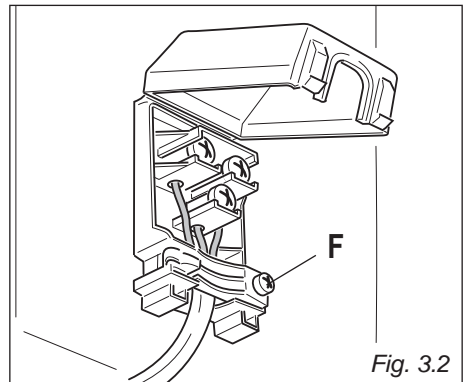
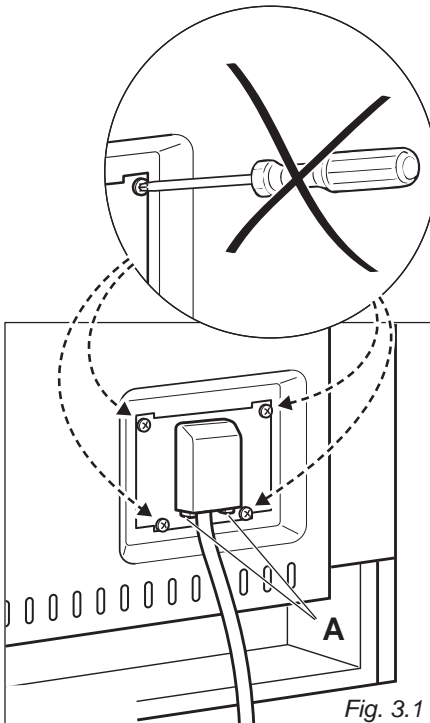

Fig. 3.2
Fig. 3.1
- Unhook the terminal board cover by inserting a screwdriver into the two hooks "A" (fig. 3.1).
- Open the cable gland by unscrewing screw "F" (fig. 3.2), unscrew the terminal screws.
Gas flow to the burners is adjusted by turning the knobs (illustrated in fig. 3.1) which control the safety valves.
1. Press in the corresponding knob and turn counter-clockwise (fig. 3.2) to the full flame position marked by the  symbol (fig. 3.1); hold the knob in until the flame has been lit.